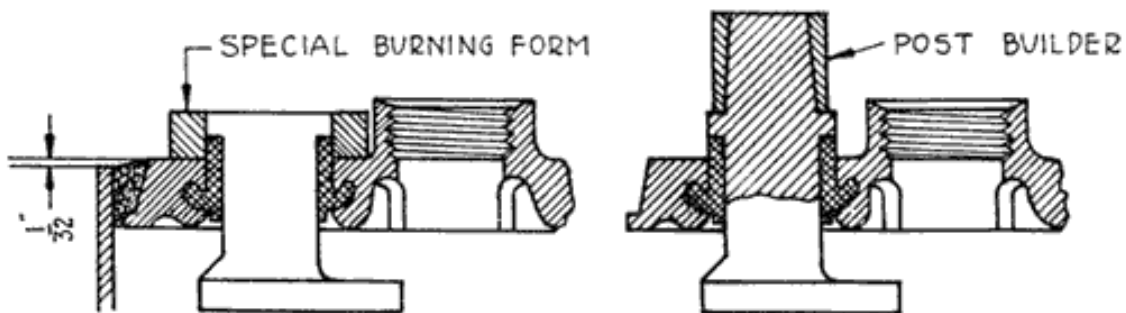

Fig. 286. Building up Posts of Willard Types SJWN and SJRN Without Using Special Willard Forms
5. Brush the top of post and cover insert perfectly clean. Now make a burning form consisting of a ring $1\frac{1}{8}$ inch inside diameter and $1\frac{5}{8}$ inch outside diameter and $\frac{3}{16}$ to $\frac{1}{4}$ inch high. Set this over the stub post and cover. With a hot lead burning flame melt the top of the post and cover insert together. Then melt in lead up to the top of the special burning form (Fig. 286). Then remove the form.
6. Set post builders on the part of the posts which has been built up and build up the posts as usual, Fig. 286. Then burn on the connectors and terminals.